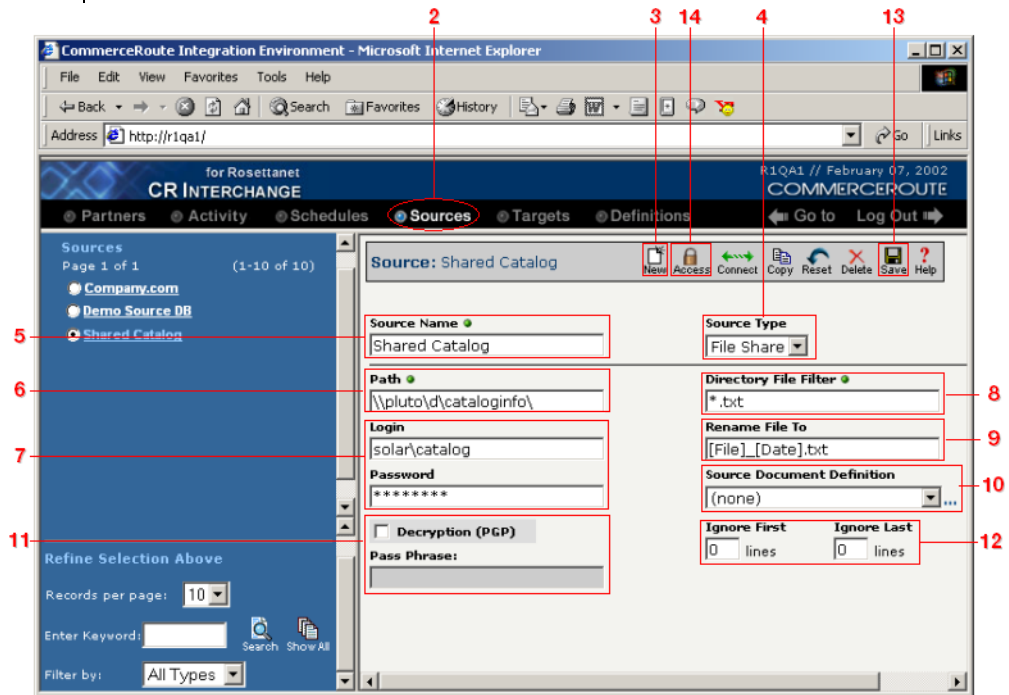

Figure 7-2. Follow the steps listed above to successfully define a new File Share source.
Follow these steps to create a new file share source definition. Each step is marked in Figure 7-2 below.
- ❸ Click on the **New** button in the toolbar to create a new source definition.
- ❹ Select **File Share** from the **Source Type** drop-down menu.
- ❺ Type a new name for the source in the **Source Name** field
- ❻ Enter the name of the file share path in the **Path** field. For example, \\demo\ directs the system to look for a shared network drive called “demo”.
- ❼ (Optional) If you need to enter a login (in the form of domainName\username) and password to access the shared network drive, enter appropriate values here.
- ❽ Enter the name(s) of the file(s) (such as BillofSale.txt, or *.*) into in the **Directory File Filter** field that contain your source information.
- ❾ (Optional) If you want to rename your source file(s) once it has been used in a transformation, enter the new name into the **Rename File To** field.
- ❿ (Optional) If this File Share source will be used with a mail merge for e-mail-based target messages, select the appropriate definition from the **Source Document Definition** drop-down menu.
- ⓭ Click the **Save** button in the toolbar. Compare your definition to that shown in Figure 7-2 below.